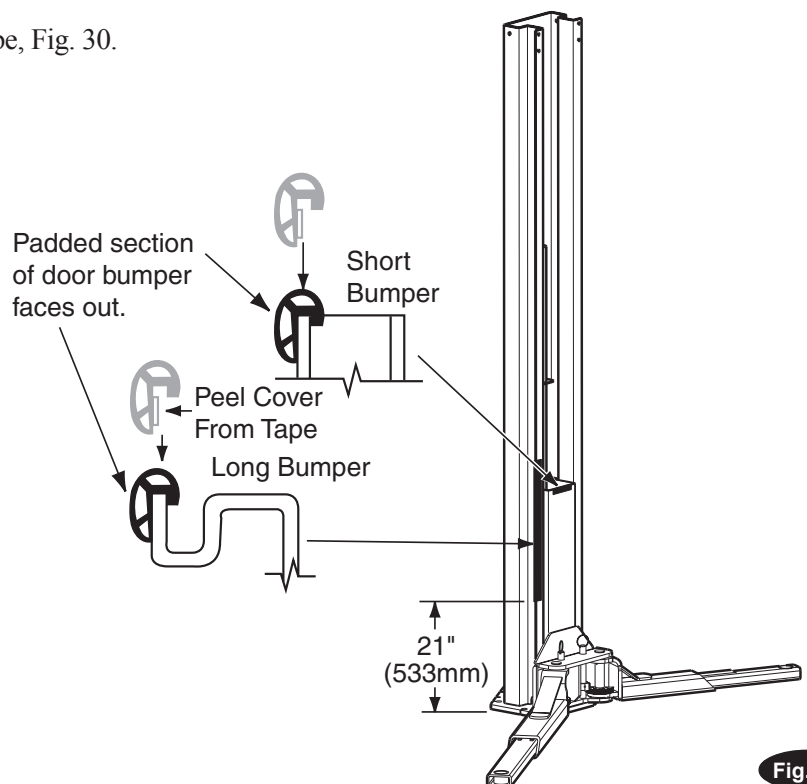

Fig. 30
- A) Press long bumper on column edge, Fig. 30.
- B) Press short bumper on top edge of carriage tube, Fig. 30.